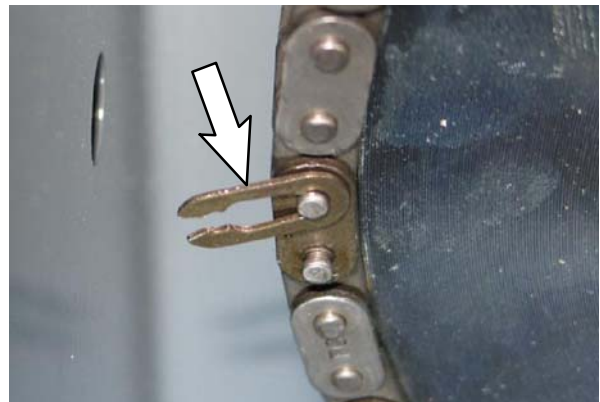

FIG. 16
18. Remove the master link from the chain. (Fig. 16)